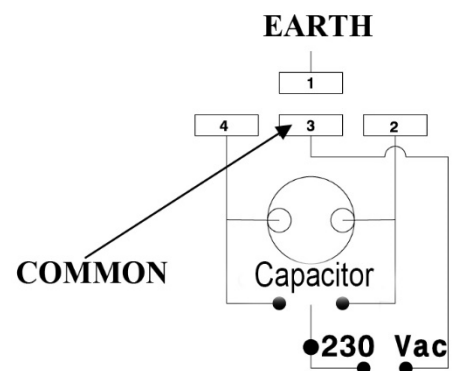

Fig.1
- 2) Fix the pillar support as shown in **(Fig.1 Page5)** shortening or extending the support according to the dimensions A and B shown in the **(Table1 Page 3)**. The support should be fixed at a height where the gate has a sufficiently rigid surface to fix the gate support, bearing in mind that the gate support will be fixed **15 mm lower** than the pillar support. **(Fig.1 Page 10)**.